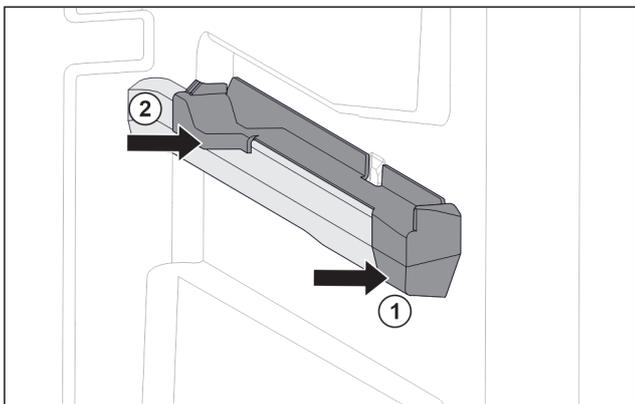

Fig. 109 Attachment on the right moulded rib
- ▶ Position attachment on moulded rib at the front. *Fig. 109 (1)*
- ▶ Press on attachment at the back. *Fig. 109 (2)*